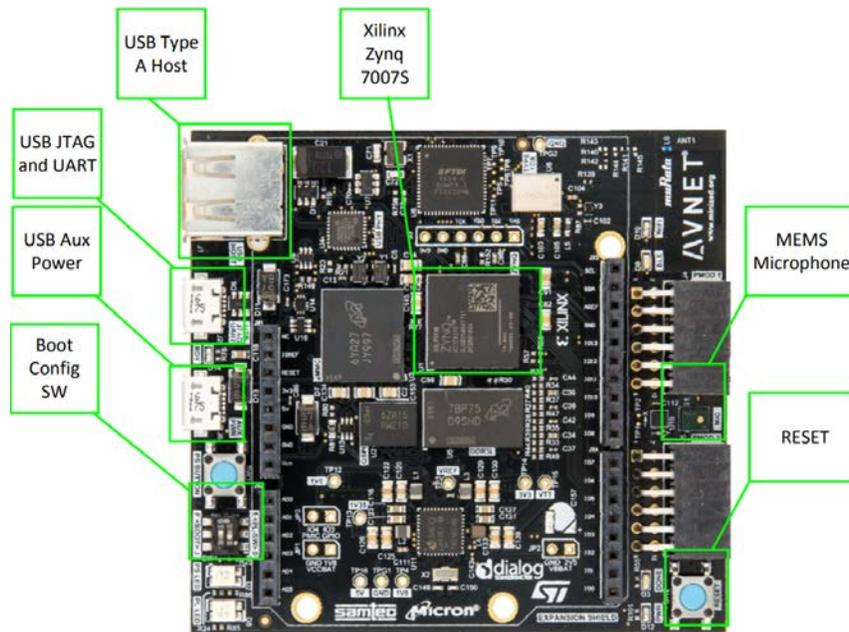

Figure 31 – Reset Button
- b. If your MiniZed boot configuration switch is similar to the above, remove the protective film and slide switch 1 (indicated by the silkscreen DASH above the F) to be toggled to FLASH Booting (F).
- d. Reboot your MiniZed using the Reset button (see Figure 31 – Reset Button)